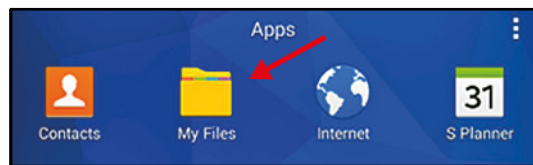

Figure 54: The “My Files” Folder
1. Open the “My Files” folder on the tablet screen and select the APP from the SD folder (see *Figure 54* below).